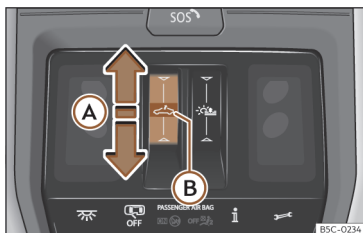

Fig. 88 On the headliner: glass roof button.
- Automatic movement: slide your finger back over the functional area >>> **Fig. 88 (A)**.
- Before approx. 5 seconds after activation of the anti-trap function, slide your finger forward over the functional area ➡ >>> Fig. 88 (A) and keep pressed until the sunroof is fully closed.